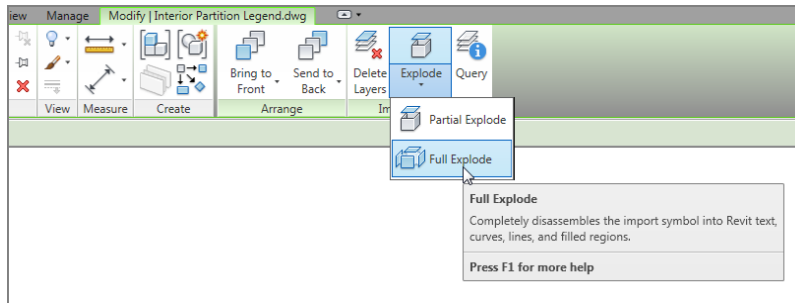

FIGURE 11.56: Click the Full Explode button on the Modify | Interior Partition Legend.dwg tab.
- 2. On the Modify | Interior Partition Legend.dwg tab, click Explode ➤ Full Explode, as shown in Figure 11.56.